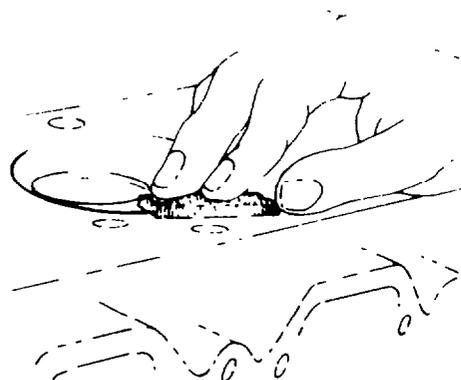

Fig. 26 — De-burring Fire Ring Groove
- d. After the grooves are cut, remove the head from the press and remove the cutting tool. Remove the burrs from the area around the fire ring groove with a honing stone (see fig. 26).